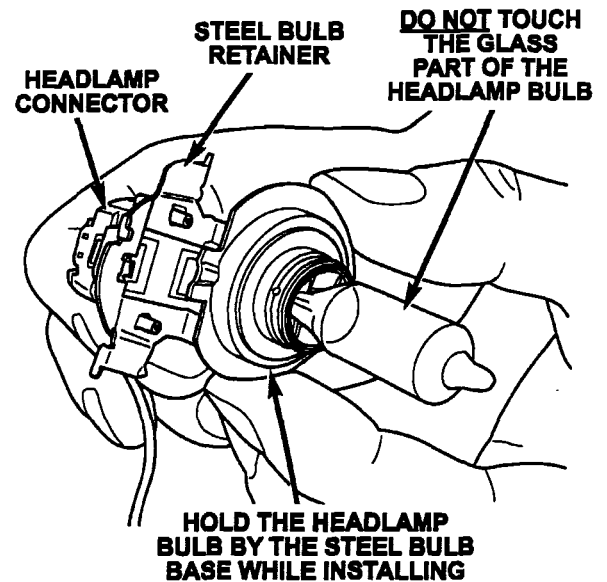

Figure 7
14. **Without touching the glass** portion of the headlamp bulb, install the new low beam headlamp bulb into the headlamp harness connector (Figure 7). Then insert the bulb connector into the headlamp housing reflector so that the ears on the steel bulb retainer are under the retaining screws.
17. **Without touching the glass** portion of the headlamp bulb, reinstall the high beam headlamp bulb into the new headlamp harness connector (Figure 7). Then insert the bulb connector into the headlamp housing reflector so that the ears on the steel bulb retainer are under the retaining screws.